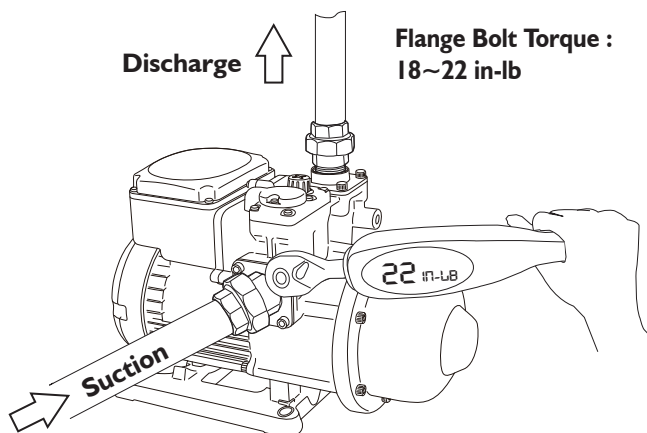

Fig. 3
6. Connect the suction pipe to the side and discharge pipe on the top.(See Fig 3)